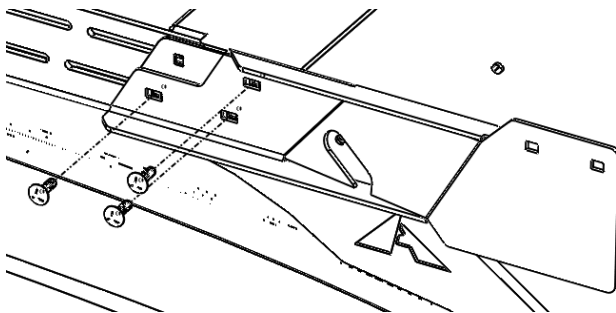

Figure 2: Installation of Front Awning Bracket
1. Install the front awning bracket (PN 351184) using the provided 1/4"-20 x 1" carriage bolts, nuts, and washers (Figure 2). Ensure bracket is level with rack before tightening all carriage bolts.